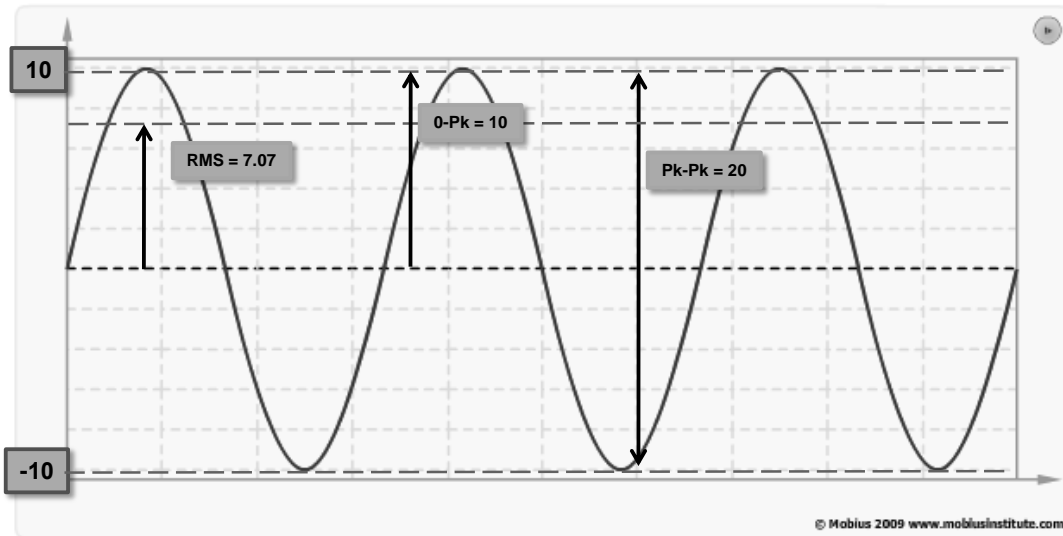

Figure 1-5 Example calculations of pk, pk-pk and RMS for a sine wave
In Figure 1-5, the amplitude of the graph is labeled 10 to -10. To calculate the pk amplitude we look for the greatest distance up or down from zero. In this case (because it is a sine wave) the distance is the same whether we go up or down and thus the peak value is 10. The pk - pk value is twice the pk value or we can measure from all the way at the bottom (-10) to all the way up top (10) and we will see that the total amount of movement is 20. Thus the pk-pk amplitude is 20. Now, because this is a sine wave, we can calculate the RMS value by multiplying the pk value (10) by 0.707. This gives us an RMS value of 7.07.